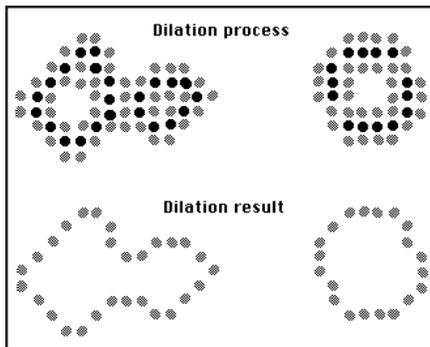

Figure 4.6. The process of dilation
In figure 4.5, the center of the image of object A was so diffuse in one section as to appear transparent. Object A therefore, digitized as two objects. The result of a 'dilation' of 1 is shown in Figure 4.6. Note that for each pixel, the four horizontal and vertical neighbors are added. The result is then outlined. Therefore, only the outermost portions of the dilated object are used. Higher dilations simply repeat this process the desired number of times. Dilations of 3 or higher significantly distort the shape of the object. The default is no dilation (0).